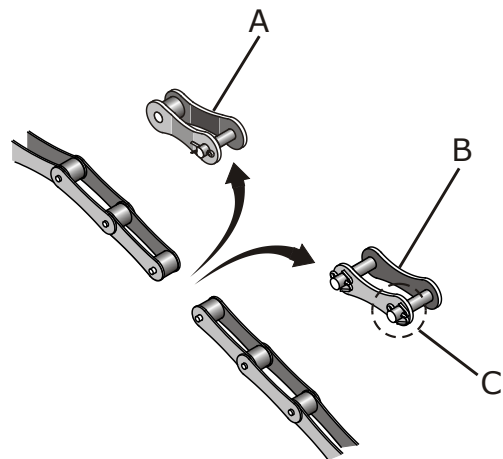

fig. 23
The transmission chains are factory pre-adjusted according to the distance between the axles of the sprockets. Eventually if need some maintenance or repair connecting links (B) or reduction links (A), remove the cotter pin (C) (fig.23), making withdrawal of the number of connecting links, reduction links or free links.